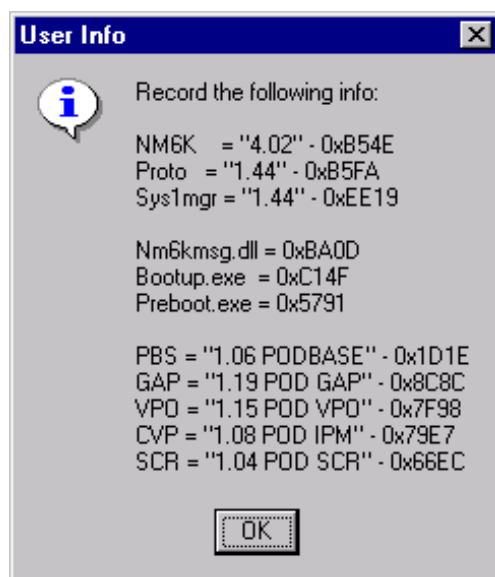

FIGURE 1-18. 4.02 CRC Values
- 1.39 Verify the Nm6kmsg.dll = 0xBA0D, CVP = "1.08 POD IPM" - 0x79E7, SCR - "1.04 POD SCR" - 0x66EC data displayed on the "User Info" dialog box, then press the OK button. See FIGURE 1-18.